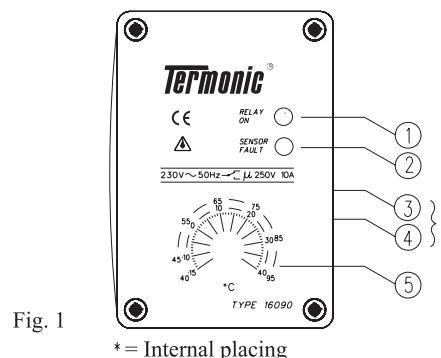

Fig. 1
The relay point changes over when the temperature at the sensor falls to under set value. Indicated by LED ①. When the temperature reaches set value LED switches off (see Fig. 1).